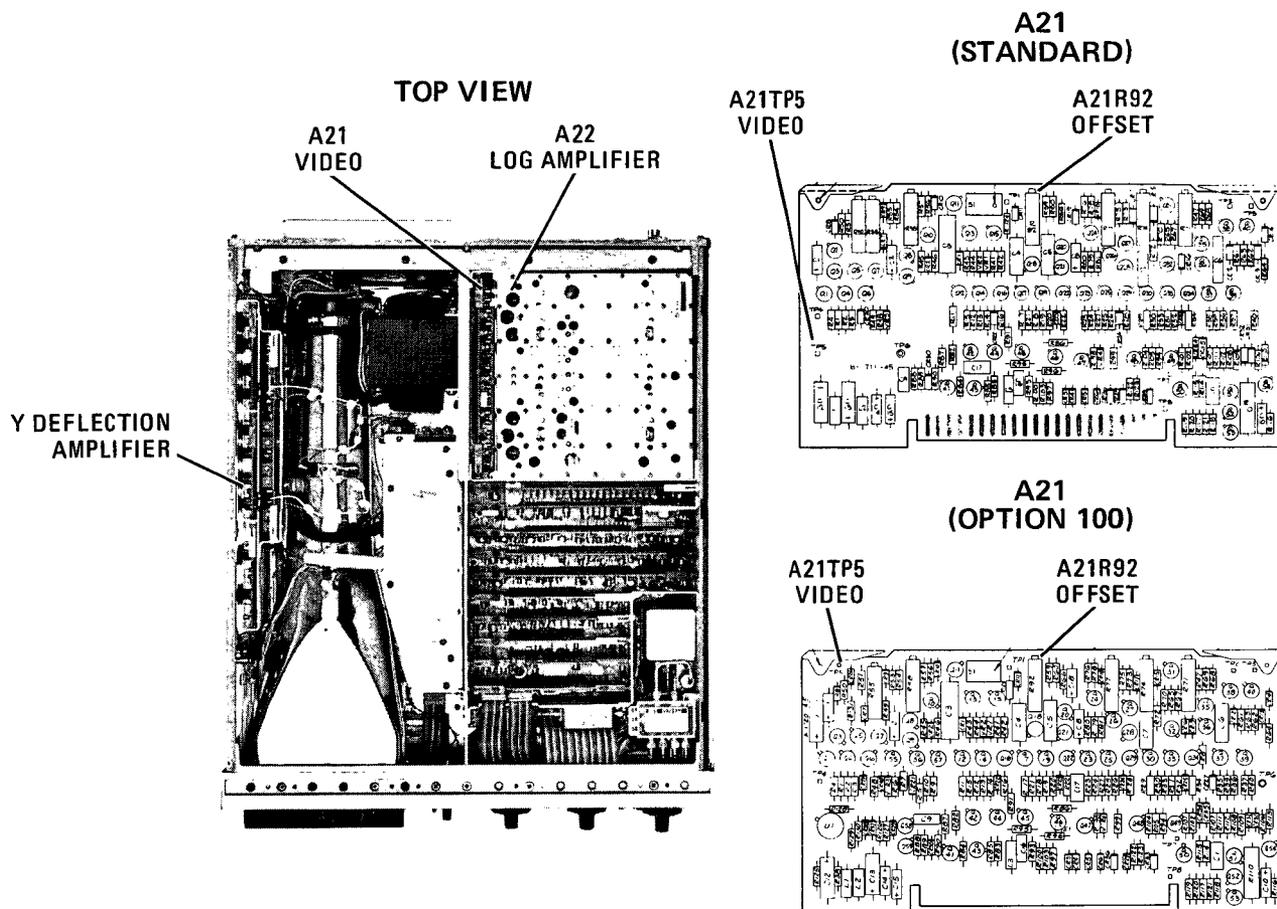

Figure 5-19. Video Offset Adjustment Locations
- f. Adjust A5R27 GAIN (Figure 5-19) to set signal level on REFERENCE LEVEL graticule line.
- Crystal Short (Qty 3)..... See Figure 5-19